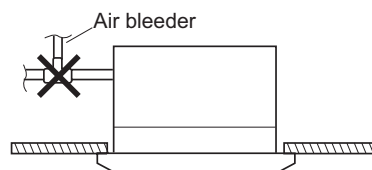

Fig. 2-185
- Do not install an air bleeder as this may cause water to spray from the drain pipe outlet. (Fig. 2-185)